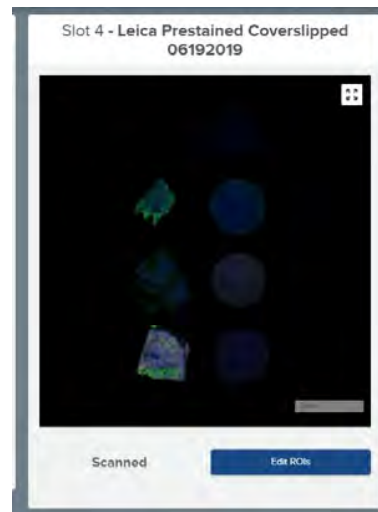

Figure 27: Control Center single slot view of Edit ROIs button activated after scanning
- During the DSP run, use the **Edit ROIs** button (see Figure 27), which will become active underneath a slide's image after the 20x scan has completed.